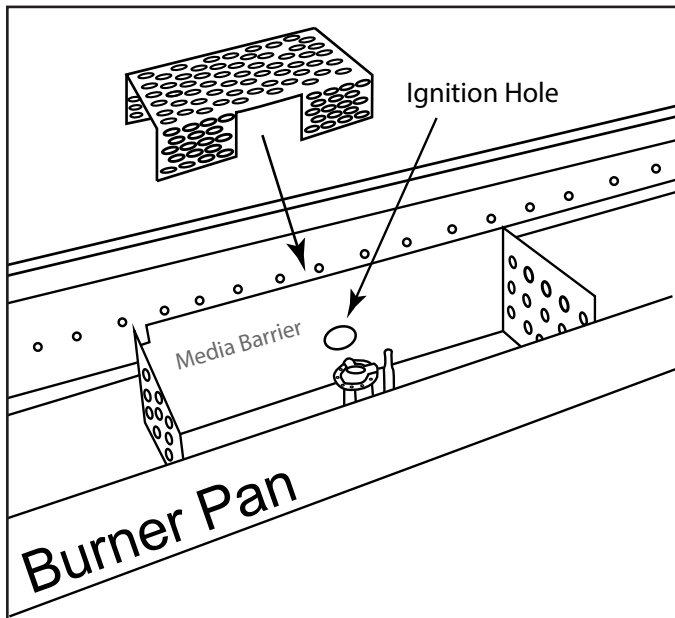

Fig. 31 Installing ignition screen.
Step 21: Install ignition screen (from parts box) overtop of the burner tube with the cutout area centered behind the pilot box ignition hole as shown in *Figure 31*. The ignition screen sits on top of the burner tube.
Test fire the fireplace before installing media to ensure flame is passing through igniton hole as shown in Figure 31, page 23. This is a good time to double check for any gas leaks or electrical connections before finalizing the installation by installing the glass media.